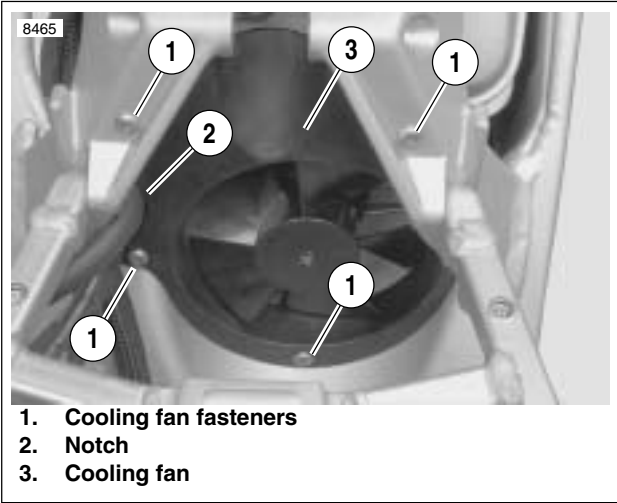

Figure 4-83. Cooling Fan
4. See Figure 4-83. Remove cooling fan fasteners (1).